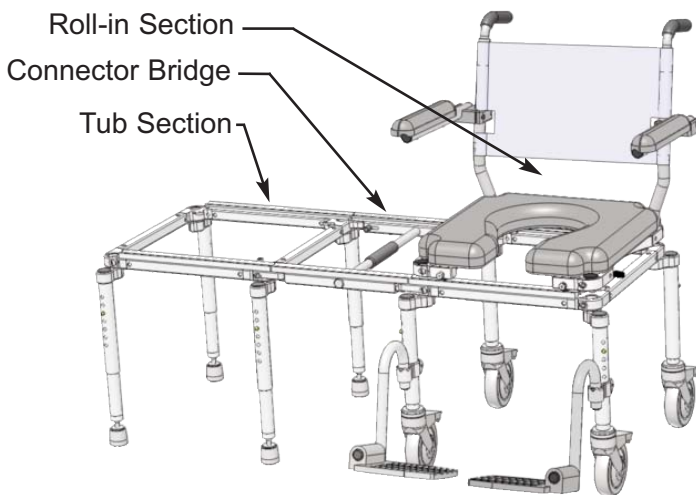

Figure 8
**Reconfigure the multiCHAIR 6000tx with the Tub Section on the user's right side (Refer to Figure 8):**